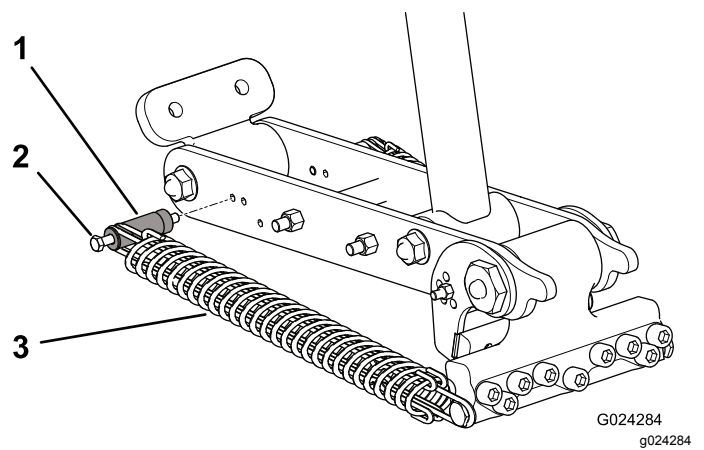
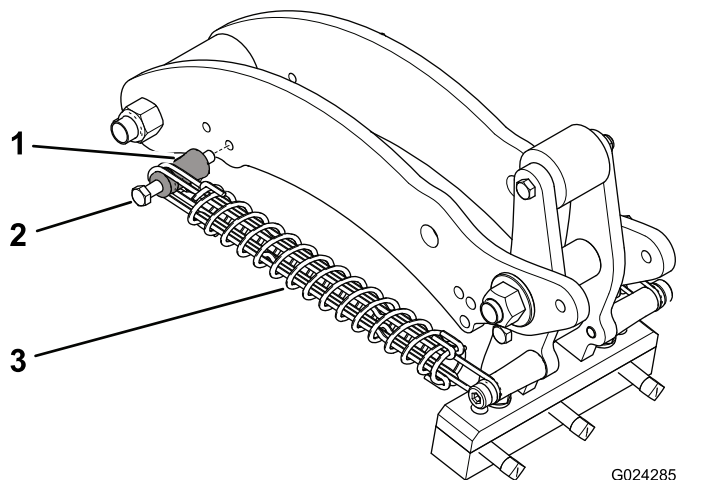

Figure 41
Figure 42
4. Remove the nut securing the spring mounting post bolt to the linkage arm (Figure 41 or Figure 42).
5. Remove the mounting post bolt and the mounting post from the linkage arm and reinsert them into the another adjustment hole (Figure 41 or Figure 42).